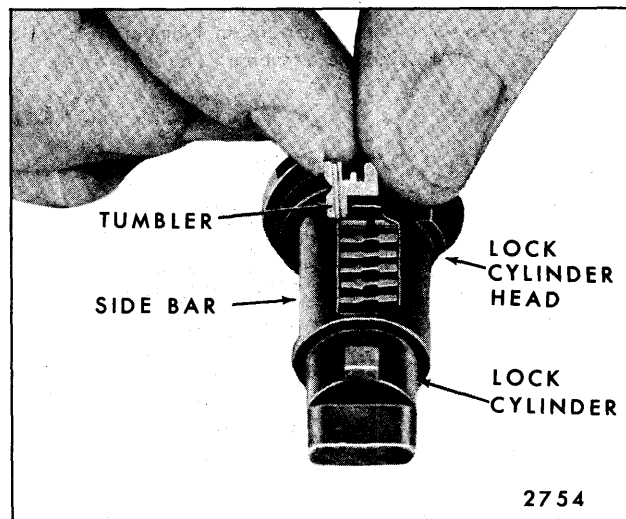

Fig. 1-6—Installing Tumblers
2. Starting at the open end (head) of the cylinder, insert the tumblers in their proper slots in the order called for by the code, as shown in Figure 1-6.
3. Pull out side bar with fingers so that tumblers will drop completely into place (Fig. 1-6). Insert one tumbler spring in the space provided above each tumbler.